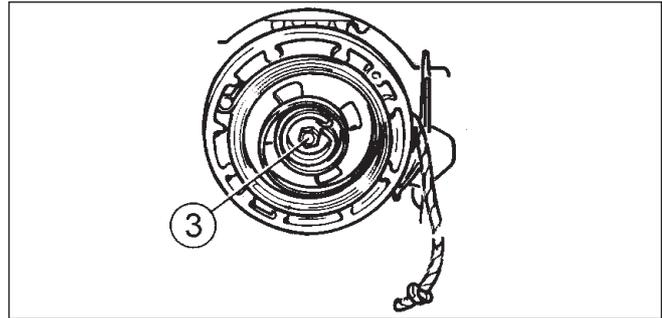

Fig. 14
- Refit gear (7) on pulley (6).
- Wind the rope onto the pulley and fit the gear and pulley assy onto the bracket pin (11).
- Secure the assy with spring hub (4) and screw (3) (Fig 14).
**NOTE** - Originally the screw (3) (Fig 14,3) had a right hand thread. Late type left hand thread which is indicated by 'S' stamped on head.